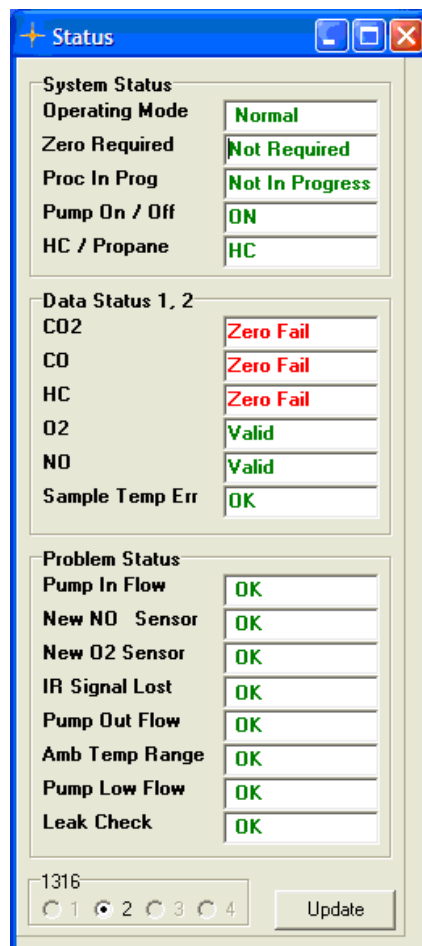

Figure 4.7. The Status Window displaying Zero failed.
4. If the CO₂, CO, or HC channel gain cannot be set (e.g., the IR signal is too strong), the following warnings occur, see figure 4.7.
5. If the reference channel gain cannot be set, the following warnings occur (see figure 4.7).